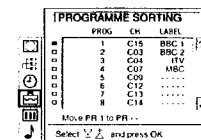

Fig. 16
- 5 Using Δ + or ∇ - select the programme position to which you want to move the channel of the programme position selected in step 4 and press OK. Now the programme positions have been sorted. (See Fig. 16)